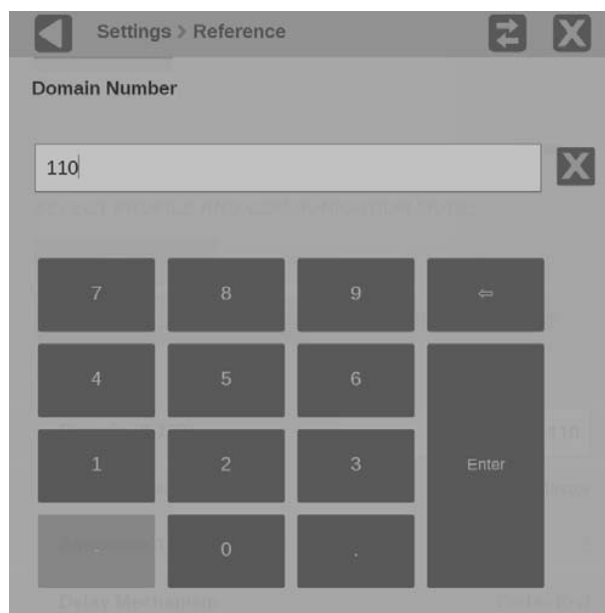

Figure 69: Editing the PTP domain setting
6. Select the **Domain (0-127)** box to open the editing display shown in Figure 69.